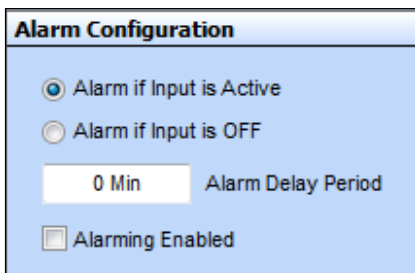

Figure 29: Alarm Configuration
You can select an alarm designation for this input based on if the input is active (ON) or input is OFF. The Alarm Delay Period is the time that must elapse after the ON/OFF condition occurs before the Alarm occurs. The maximum delay period is 300 minutes. The **<Alarming Enabled>** box must be checked for Alarming to occur. See **Figure 29 below**.